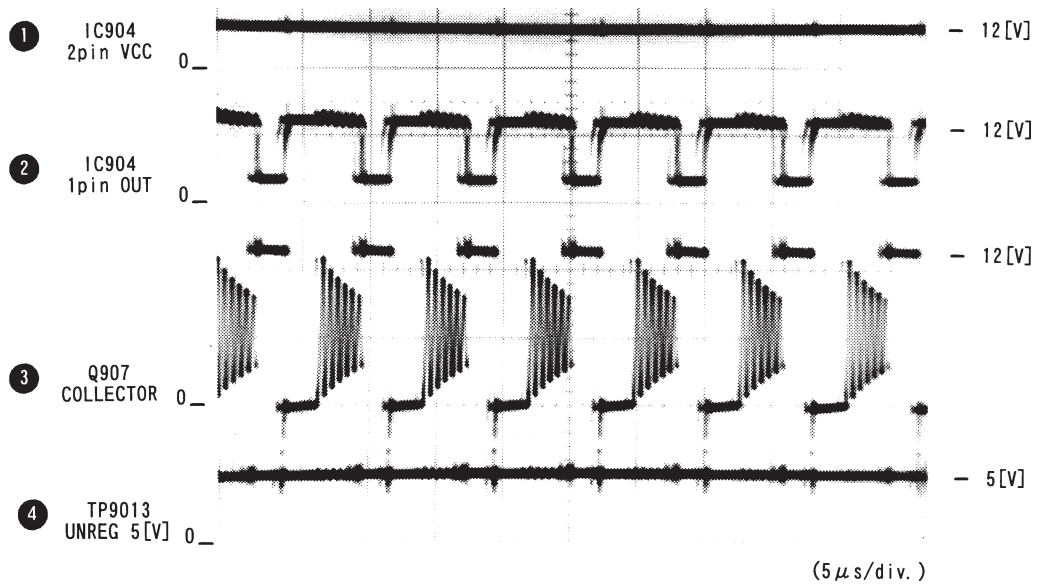
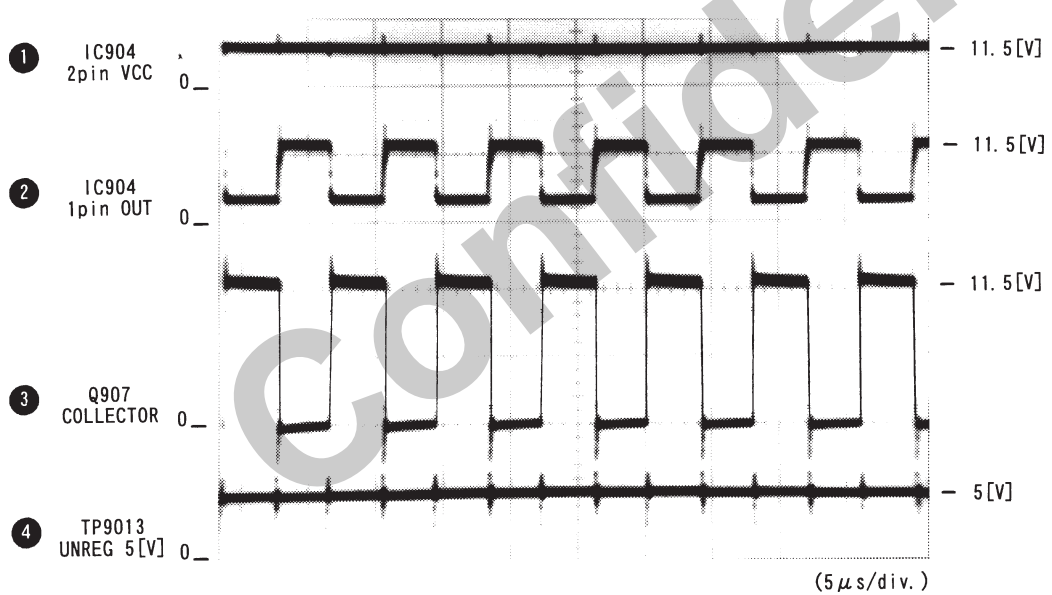

Fig. 3-7 UNREG power supply voltage generator circuit waveform timing chart (when MiniDisc recorder is not connected to station)
Fig. 3-8 UNREG power supply voltage generator circuit waveform timing chart (when MiniDisc recorder is connected to station)
(1) Generating the UNREG power supply voltage
When the DC plug is inserted to the DC jack, 9 V is input to POWER CONTROL1 IC904 pin② [VCC] via a line filter LF902, which starts up IC904. As IC904 starts up, the PWM waveform that is generated by the internal PWM comparator, is output from pin① [OUT]. Q908 and Q907 start switching operation as a result of this PWM waveform output, and the step-down DC-DC converter circuit is started up. After the Q907 output is smoothed by D905, L903 and C908, the voltage resistance-divided by R915 to R917 is fed back to pin④ [INPUT] of IC904. Based on this feedback voltage, IC904 controls the voltage by controlling the PWM wave duty generated by the PWM comparator inside. As a result of this operation, the UNREG 5 V is generated. (Refer to Fig. 3-7 and Fig. 3-8.)
(2) Generating the 2.9 V for system controller IC801